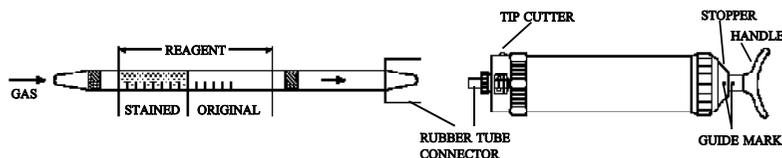

Fig.1
- ① Break both ends of detector tube.
- ② Insert the detector tube into aspirating pump securely as shown in Fig.1. (Arrow mark shall point to the pump.)
- ③ Align the guide marks on the shaft and stopper of the aspirating pump.
- ④ Pull the pump handle at full stroke (100ml) until it locks and wait for 1.5 minutes as it is or until the sampling is confirmed as to be completed. (See descriptions of the flow indicator in the pump instruction manual)